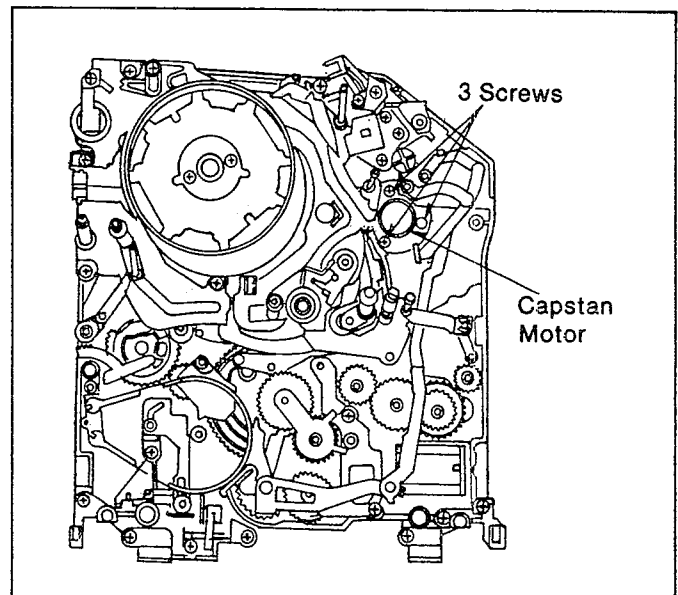

Fig. M40
- (3). Install the Capstan Motor and the tighten the 3 screws as shown Fig.M40.